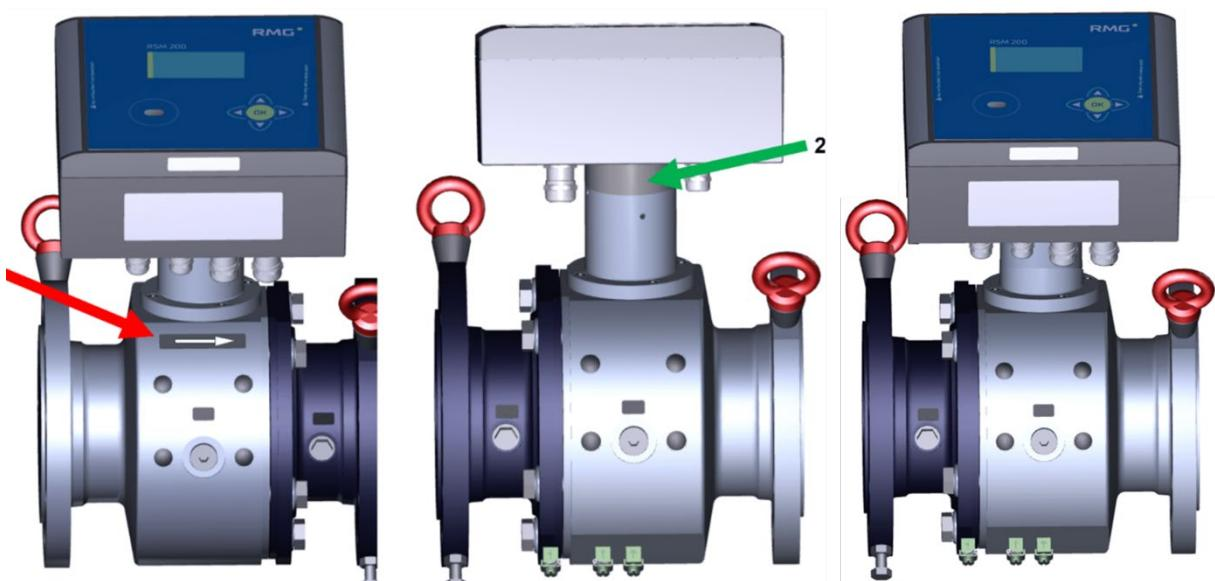

Figure 7: Rotating the display
The RSM 200 is offered in 2 versions; first, the display faces you and the flow direction is from the left side to the right side. Second, the flow direction is reversed. In the *Figure 7: Rotating the display* the red arrow (1) indicates the flow direction for version 1. The display is tilted downwards at the front, so rainwater runs off and readability from the front is improved.